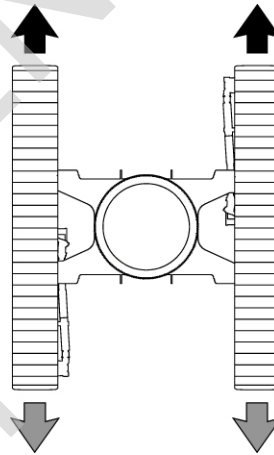

Figure 3-22. Travel Straight
8. To TRAVEL STRAIGHT (Figure 3-22), move both of the crawler handles the same amount in the desired direction from the neutral position.